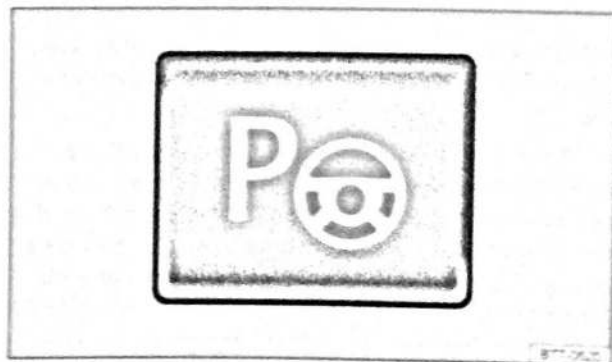

Fig. 158 In the lower section of the centre console: button for switching on the Park Assist system manually
- For parking spaces parallel to the road: press the  button ⇒ Fig. 158 **once** while travelling at a speed of up to approximately 40 km/h (25 mph). An indicator lamp lights up in the button when the function is switched on.
- For parking spaces perpendicular to the road: press the  button ⇒ Fig. 158 **twice** while travelling at a speed of up to approximately 25 km/h (15 mph). An indicator lamp lights up in the button when the function is switched on.
- Press the  $\Rightarrow$ Fig. 158 button. An indicator lamp lights up in the button when the function is switched on.